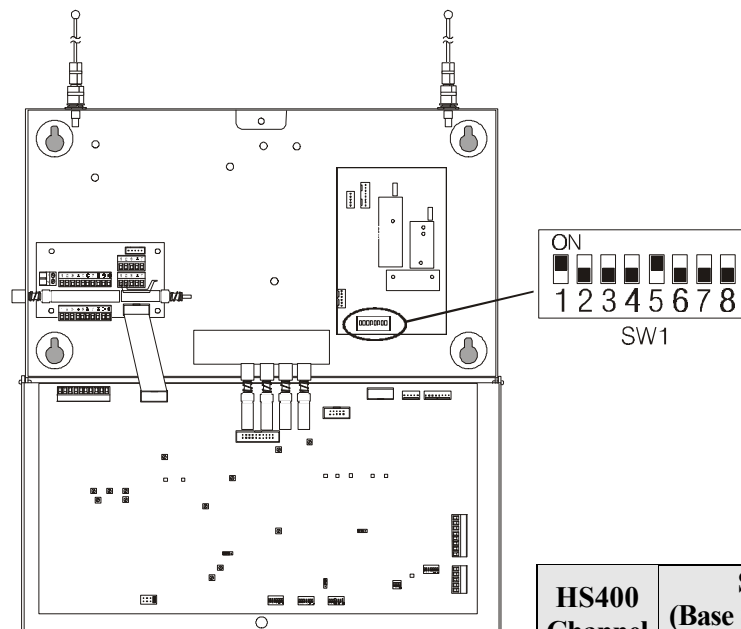

Figure 6. SW1 DIP switch in System 400 Base Station
- Match the settings in the base station with one of the horizontal lines on the table in Figure 6 to determine on which **HS400 Channel Setting** your headset must be set